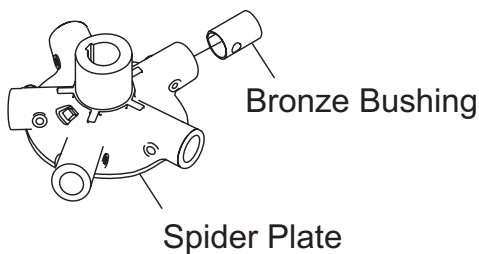

Figure 48. Bronze Bushing
- Should the trowel arm insert (bronze bushing) come out with the trowel arm, remove the bushing from the trowel arm and set it aside in a safe place. If the bushing is retained inside the spider plate, carefully remove the bushing. See Figure 48.
- Examine the bronze trowel arm bushing (Figure 48), and clean it if necessary. Replace the bushing if it is worn or out of round.